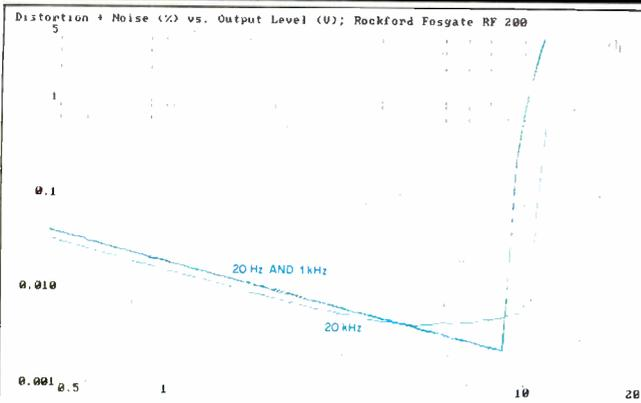
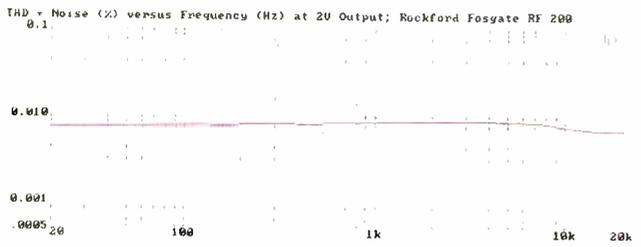

Fig. 4—THD + N vs. output level.
Fig. 5—THD + N vs. frequency, at 2 V out.
Figure 4 shows how THD + N varied with increasing output levels, for 20-Hz, 1-kHz, and 20-kHz signals. It is important to understand that, while the percentages of THD + N seem higher for lower output levels, these tests include the sum of distortion *plus* noise. At lower levels, the residual noise adds to the overall percentage read by the test equipment; at higher levels, however, what you see is dominated by the distortion itself. At 5 V output, for example, the total THD + N at all three test frequencies was only about 0.004%. Figure 5 shows that THD + N remained virtually constant at around 0.007%, decreasing slightly at the extreme treble frequencies, when output was regulated by the test equipment to remain constant at 2.0 V. Again, these results represent the sum of THD + N. Had I been able to separate distortion from noise, I have no doubt that the figure would have been well below the 0.005% claimed.
Fig. 4—THD + N vs. power output per channel into 8 ohms (A) and 4 ohms (B). The distortion at high power output levels for 4-ohm loads is due to limitations of test setup; see text.